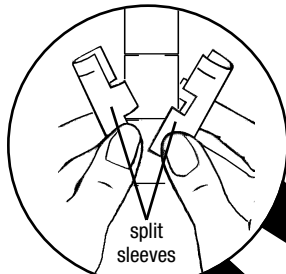

figure 3a
- Attach split sleeves to bottom groove of “U” handle legs (see *figure 3a*).